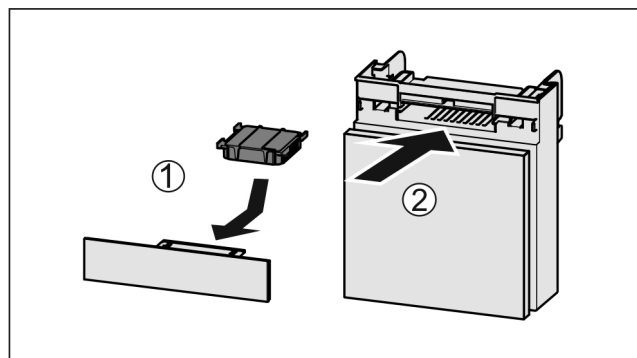

Fig. 118
- ▶ Insert the carbon filter as shown in the diagram Fig. 118 (1).
- ▶ Push the compartment in Fig. 118 (2).